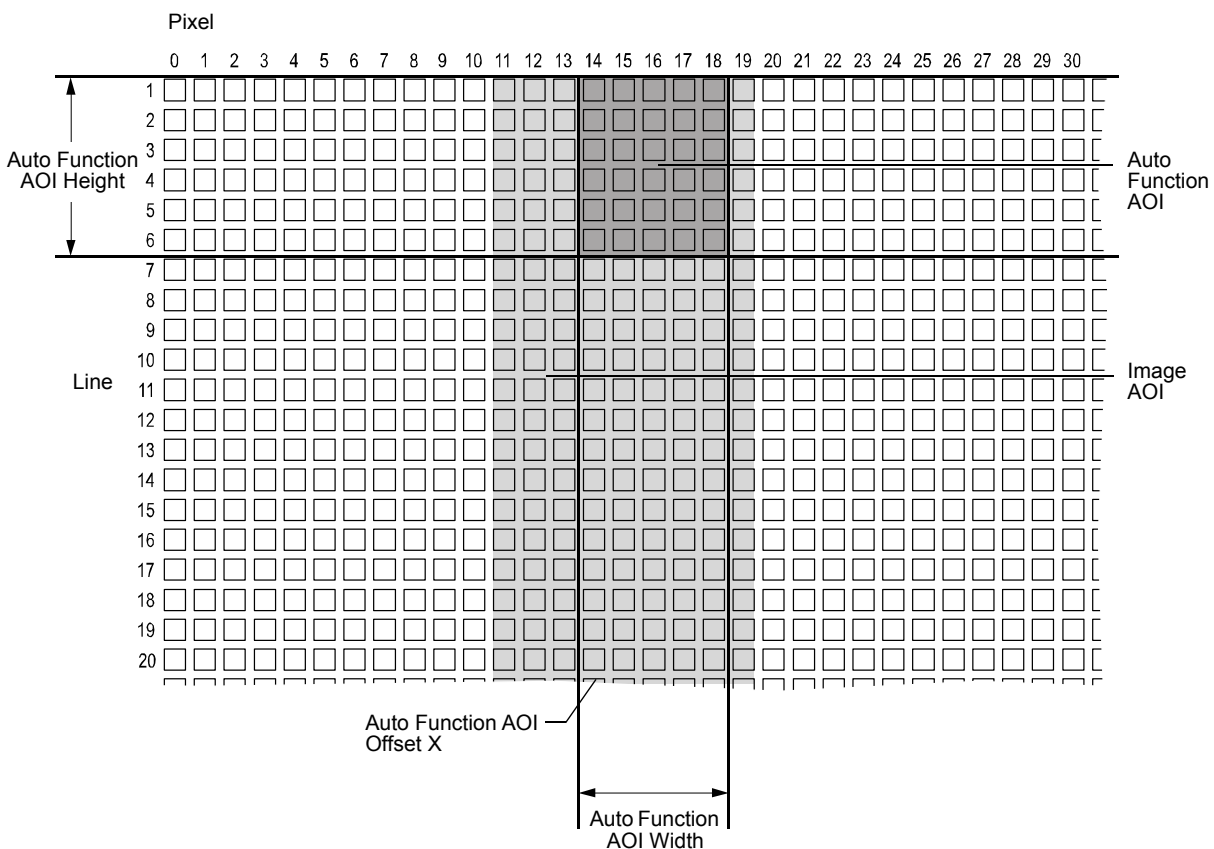

Fig. 55: Example Auto Function Area of Interest
**Example:** You set the `AutoFunctionAOIOffsetX` parameter to 14, the `AutoFunctionAOIWidth` parameter to 5, and the `AutoFunctionAOIHeight` parameter to 6. The resulting Auto Function AOI is shown in Fig. 55.